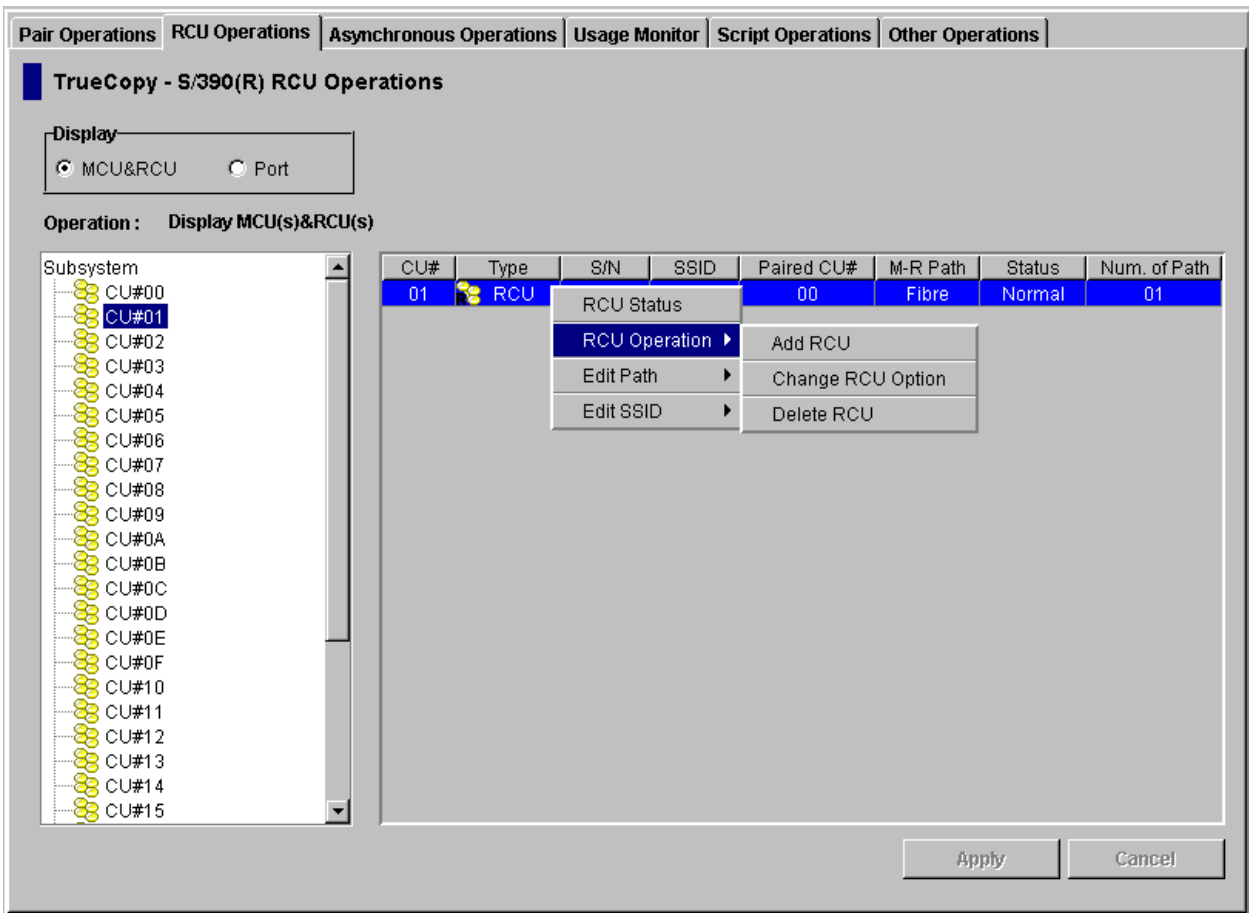
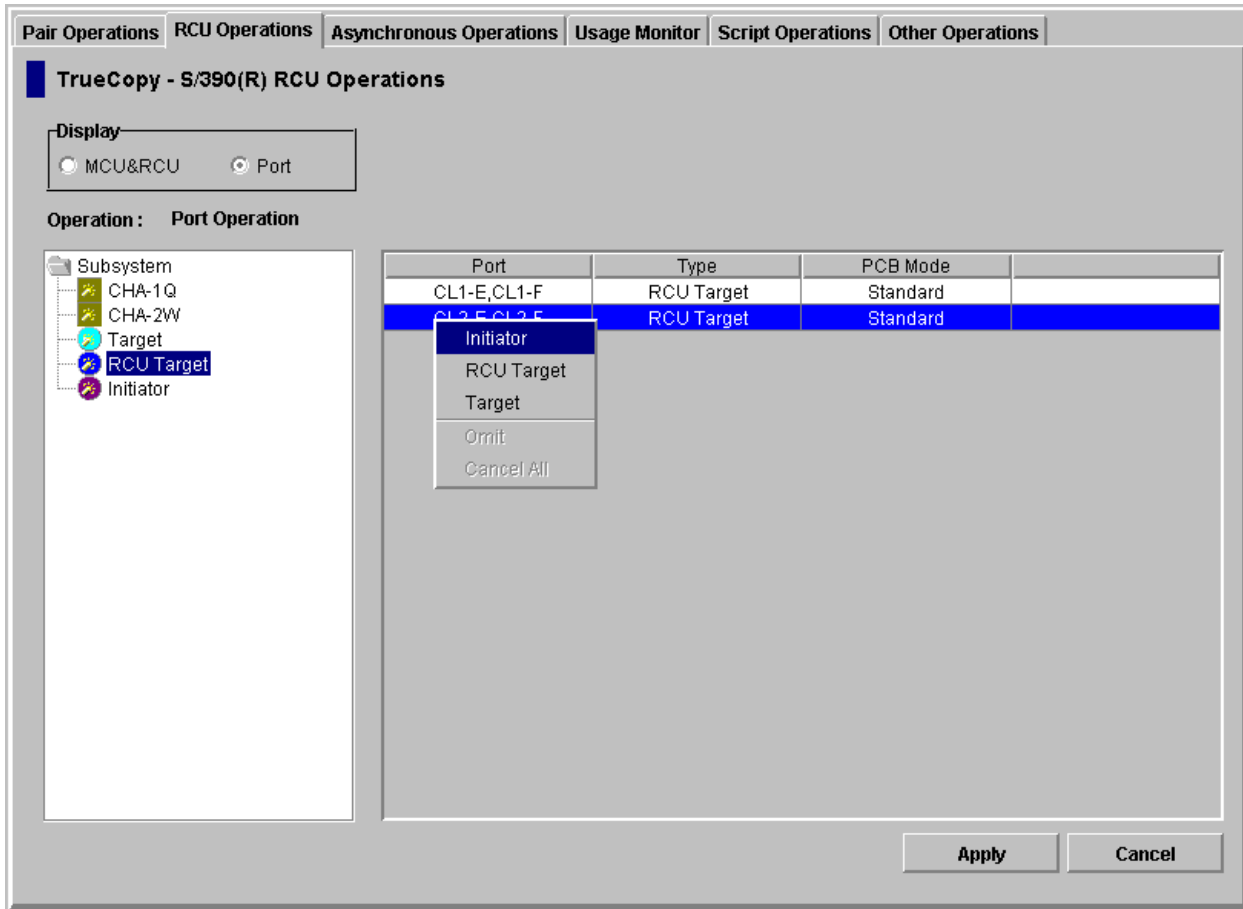

Figure 4.10 Pop-up Menu for MCU & RCU Operations
Figure 4.11 Pop-Up Menu for Port Operations
4. Right-click on the selected item(s) to display the pop-up menu (see Figure 4.10 and Figure 4.11).